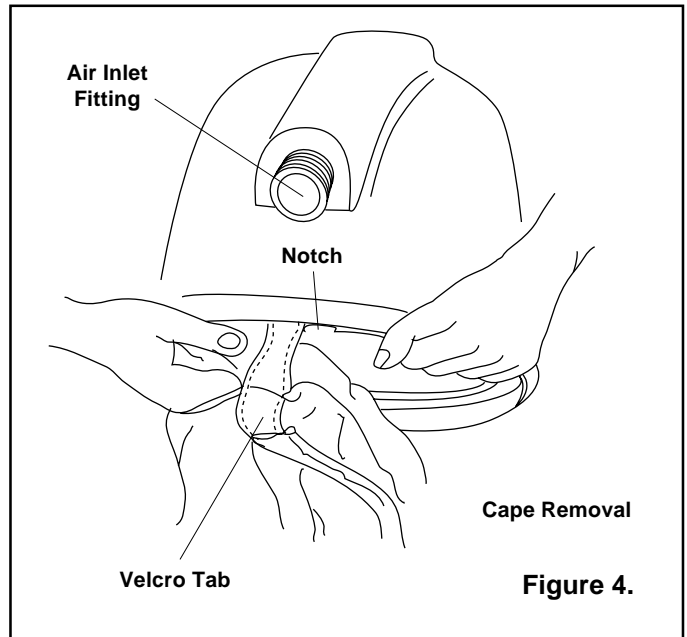

Figure 4.
9.4.2 Separate the Velcro tabs on the back of the cape. See Figure 4.